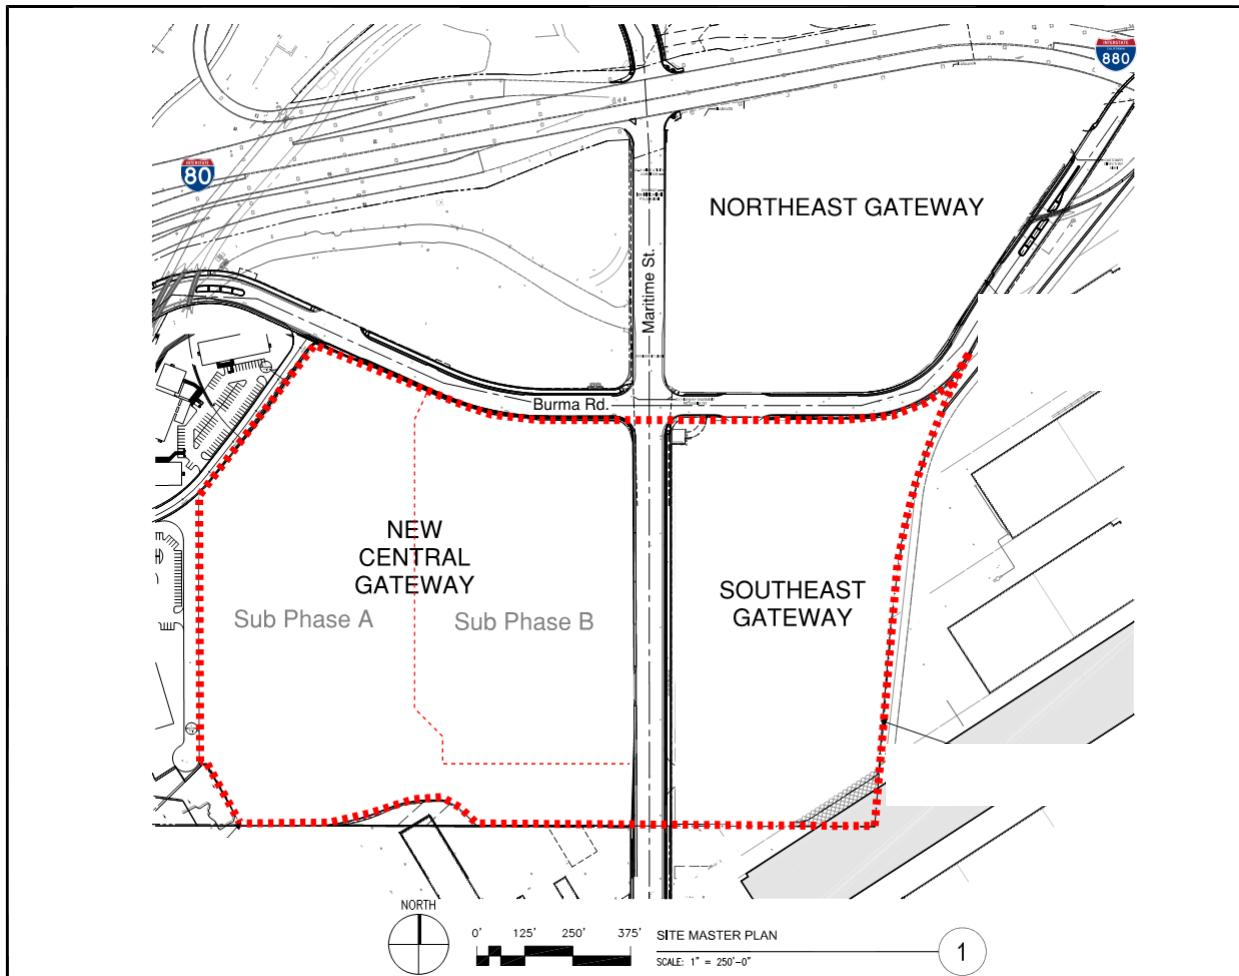

Figure 1 - Prologis Master Site Plan
This Construction Air Quality (AQ) Plan covers the remaining Prologis projects, to be built on the Southeast Gateway and New Central Gateway of the Oakland Army Base Redevelopment site. See Fig. 1 below, showing the area and phase breakdown, which are further detailed in narrative below. The area under this AQ Plan is outlined in red.